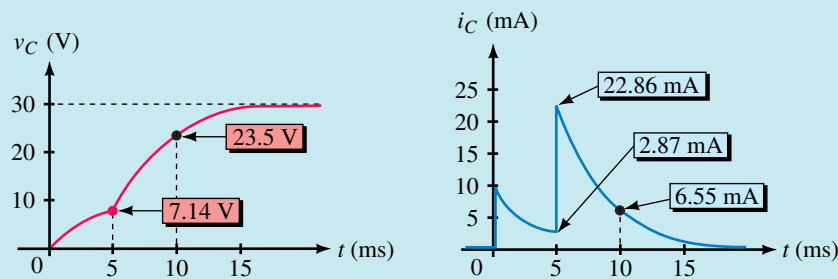

FIGURE 11–27 Capacitor voltage and current for the circuit of Figure 11–26.
f. See Figure 11–27.
EXAMPLE 11–13 In Figure 11–28(a), the capacitor is initially uncharged. The switch is moved to the charge position, then to the discharge position, yielding the current shown in (b). The capacitor discharges in 1.75 ms. Determine the following: